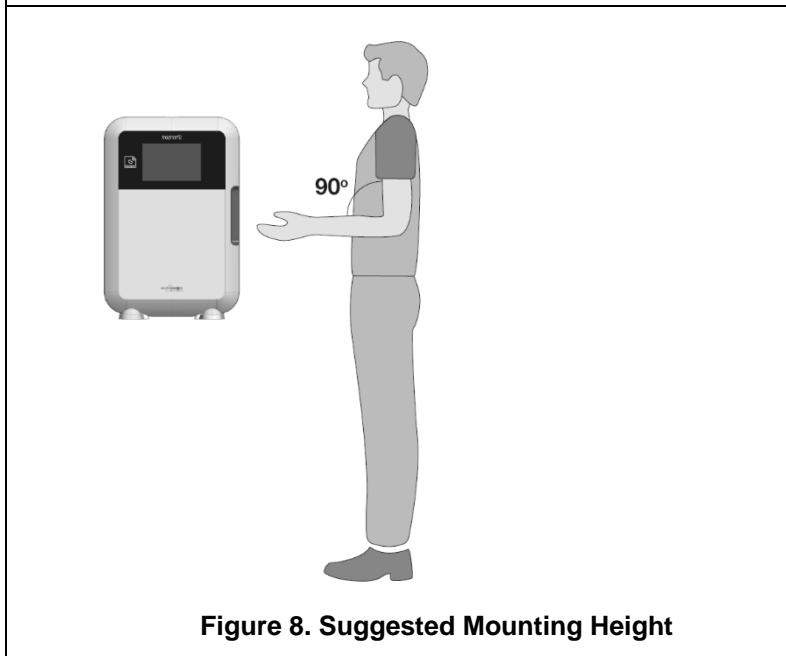

Figure 8. Suggested Mounting Height
**The trophon2 device should be placed at a height from the floor level to accommodate a range of user heights. Refer to Figure 8 for a guide to an ergonomically safe work zone.**